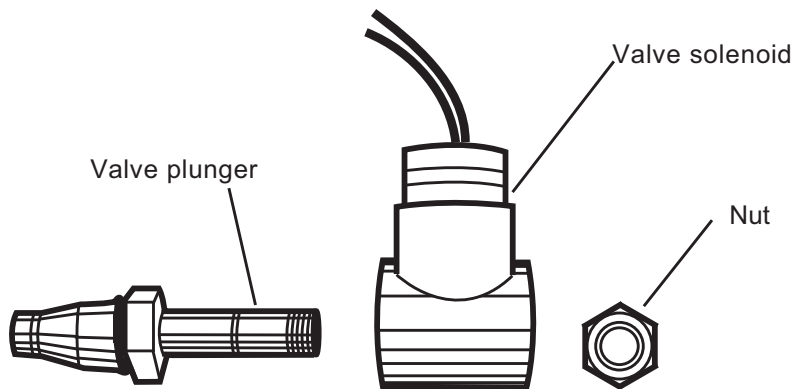

Fig. 9 Down Valve
- Disassemble the down valve as shown in Fig. 9. Blow the valve plunger clean with compressed air. Reassemble the valve and reinstall it.